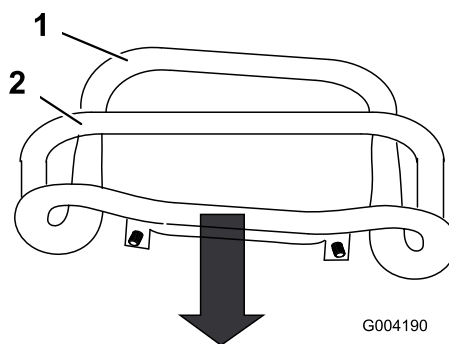

Figure 54
3. Pull back the traction control so that the front of the control contacts the reference bar (Figure 54).